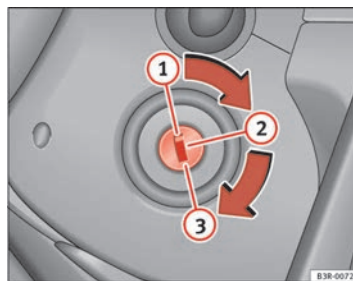

Fig. 137 Ignition key positions
- Turn the ignition key to position ① ⇒ page 168, fig. 137.